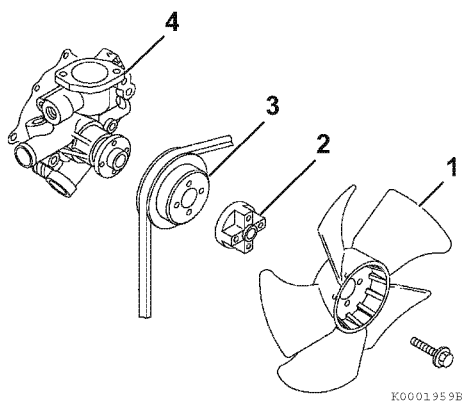

Figure 8-4
4. Remove the engine coolant fan guard (if equipped), engine coolant fan (**Figure 8-4, (1)**), spacer (**Figure 8-4, (2)**) and engine coolant pump V-pulley (**Figure 8-4, (3)**).
6. Remove the engine coolant pump (Figure 8-4, (4)). Discard the gasket.